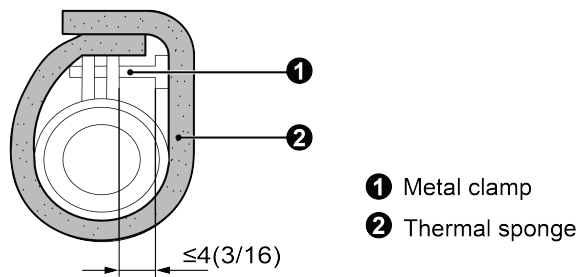

Fig 4.3.2.2
- (4) When connecting several drain pipes, follow the instruction as indicated in Fig 4.3.2.3. Choose the drain collecting pipe that matches with unit capacity.